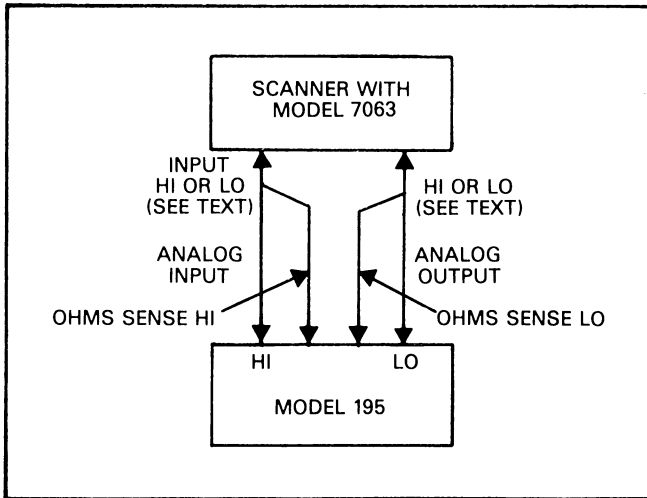

Figure 3-3. Configuration for Contact Resistance Test
3. After the Model 195A is zeroed, connect the leads from the Model 195A to the HI of the channel to be tested and HI of the output channel. Refer to Figure 3-3.